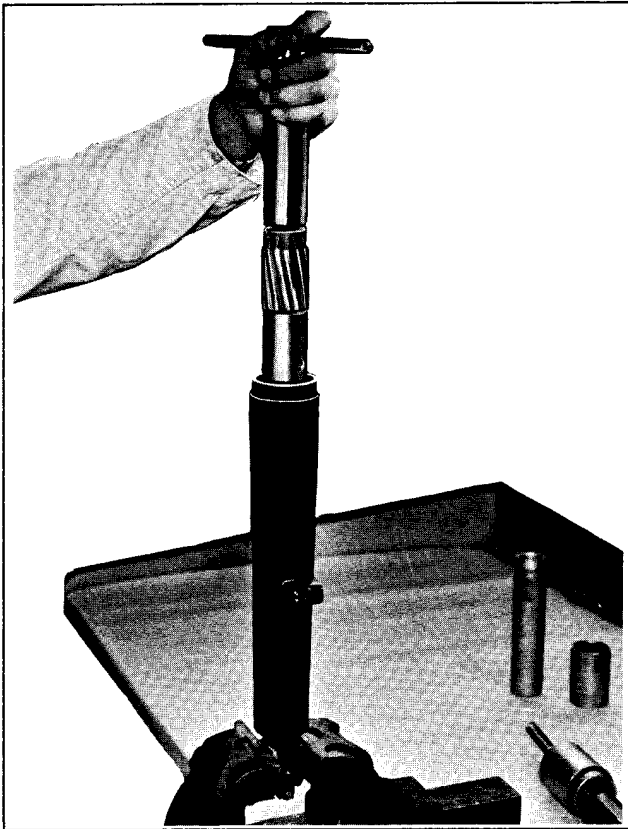

Figure 2-25. Reaming Replacement Bushing
1. Attach long pilot to reamer as shown in Figure 2-25. The long pilot fits into the unfinished lower bushing, acting as a guide, while reaming the upper bushing. Do not drop reamer into bushing. Slowly lower reamer into cutting position and ream bushing, turning reamer clockwise. Continue turning reamer clockwise as it is being extracted when cut is finished.